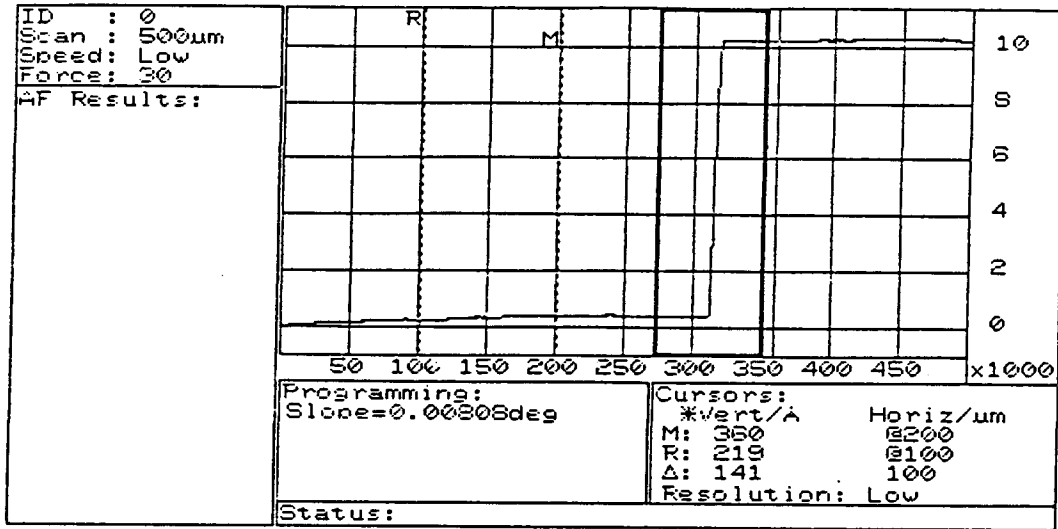

Figure 7-3. Levelled Scan
6. Once the stage is manually leveled to within ± 0.01 degrees, press **LVL** to cursor (software) level the trace. Position the left and right boundaries as shown in Figure 7-3 and press **RPLT**.